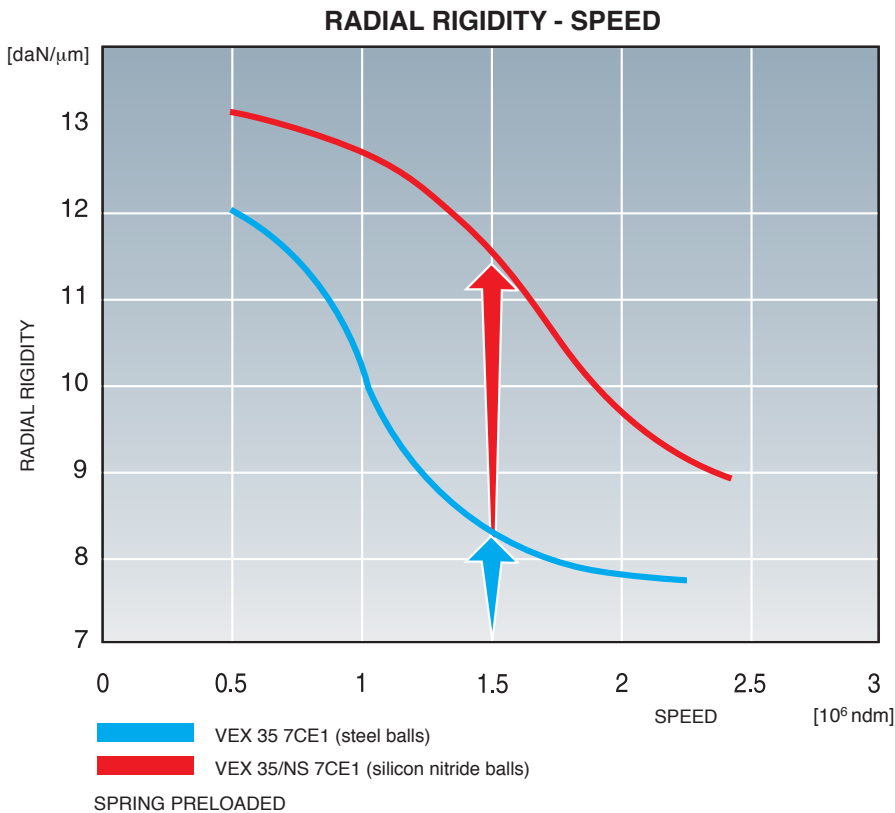

Fig. 16
- greater static and dynamic rigidity (Figure 16)